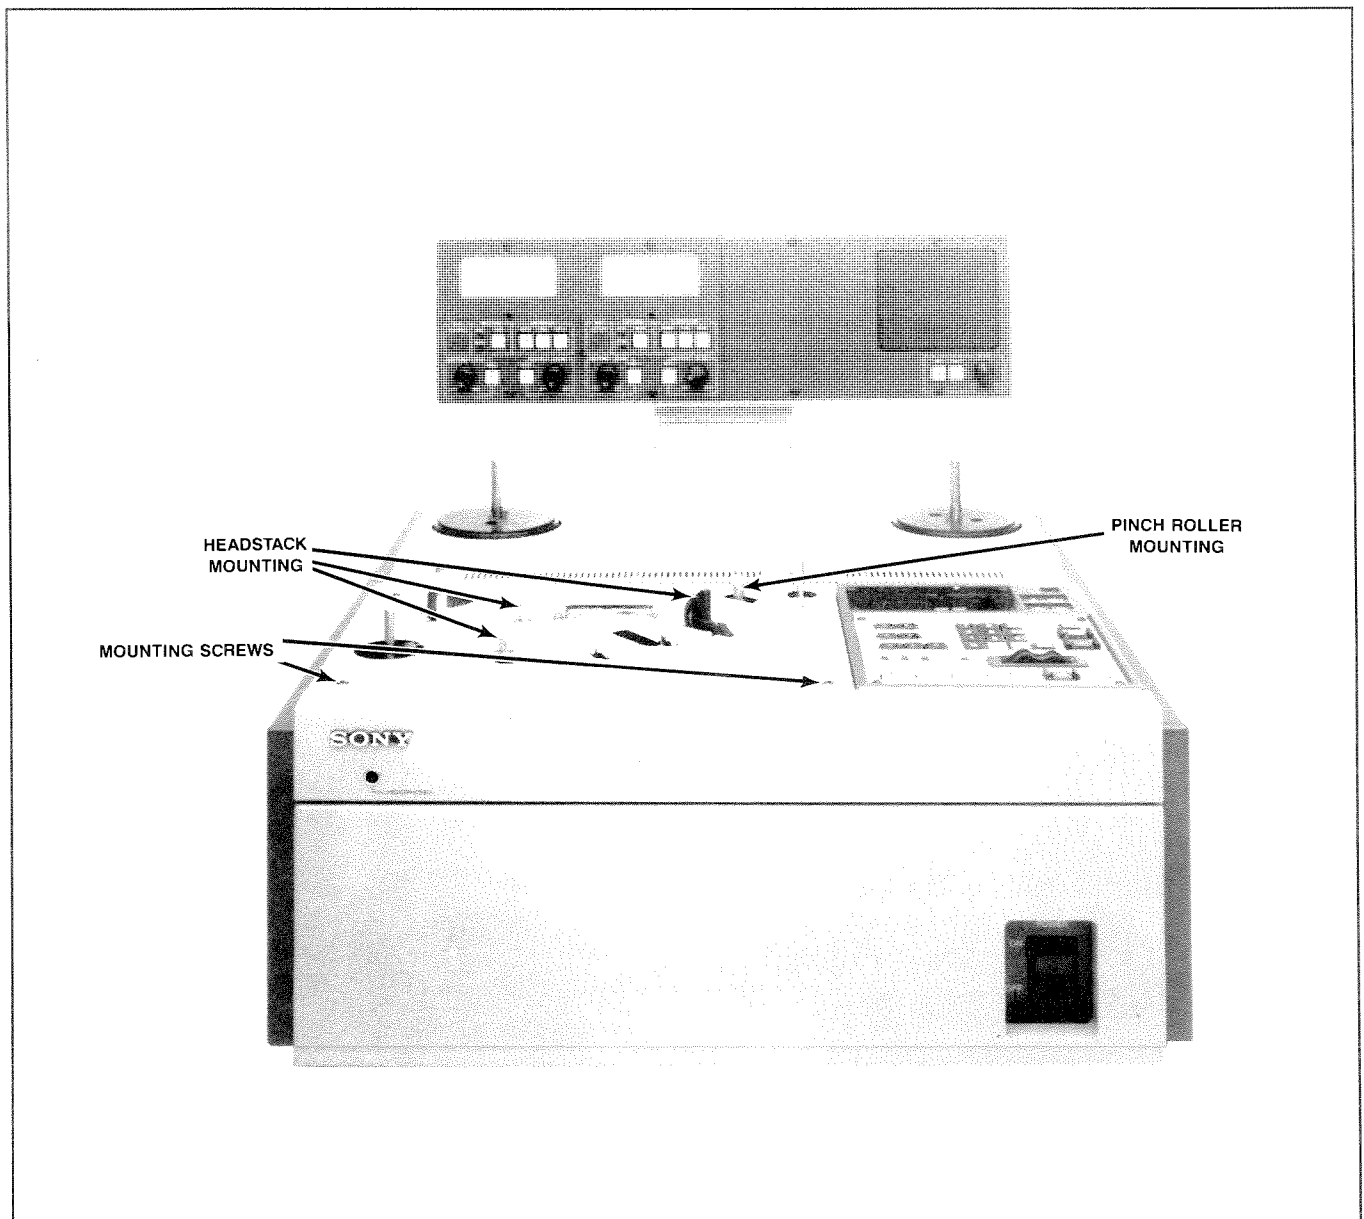

Figure 6-1. Removal of Top Front Cosmetic Cover
**STEP 4** To re-install, gently place the headstack to be installed on the connector and studs. (See Figure 6-1.)
Some of the adjustment and alignment procedures in this section requires removal of the top front cosmetic cover. When it is necessary refer to this procedure. (See Figure 6-1.)